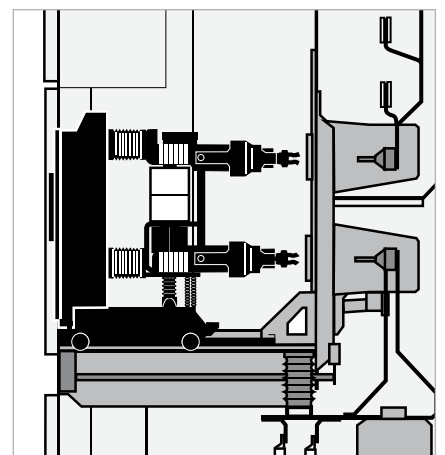

Fig. 52
3. Check position of the truck (Fig. 52) through the inspection port.